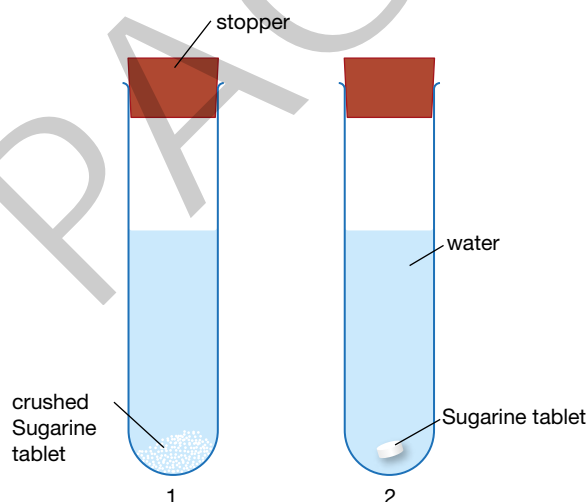

FIGURE 4.1.14
- 1 Design an experiment that will test whether a crushed Sugarine tablet dissolves faster or slower than a whole Sugarine tablet. Figure 4.1.14 might give you some ideas on how to do this.